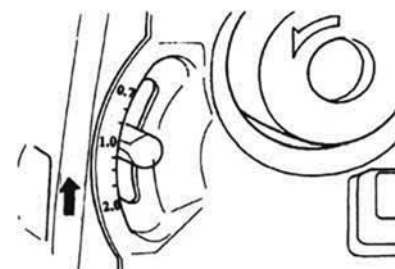

Fig. 45
- Adjust the differential transport lever ⑨ to a value lower than 1.0 (Fig. 45). The exact setting depends on the material to be processed, and on the strength of the desired "ruffle effect". Therefore always do a sample stitching to test the settings.
- Hold the seam down with slight firmness before and behind the sewing foot ②1 so as to keep the textile under tension.